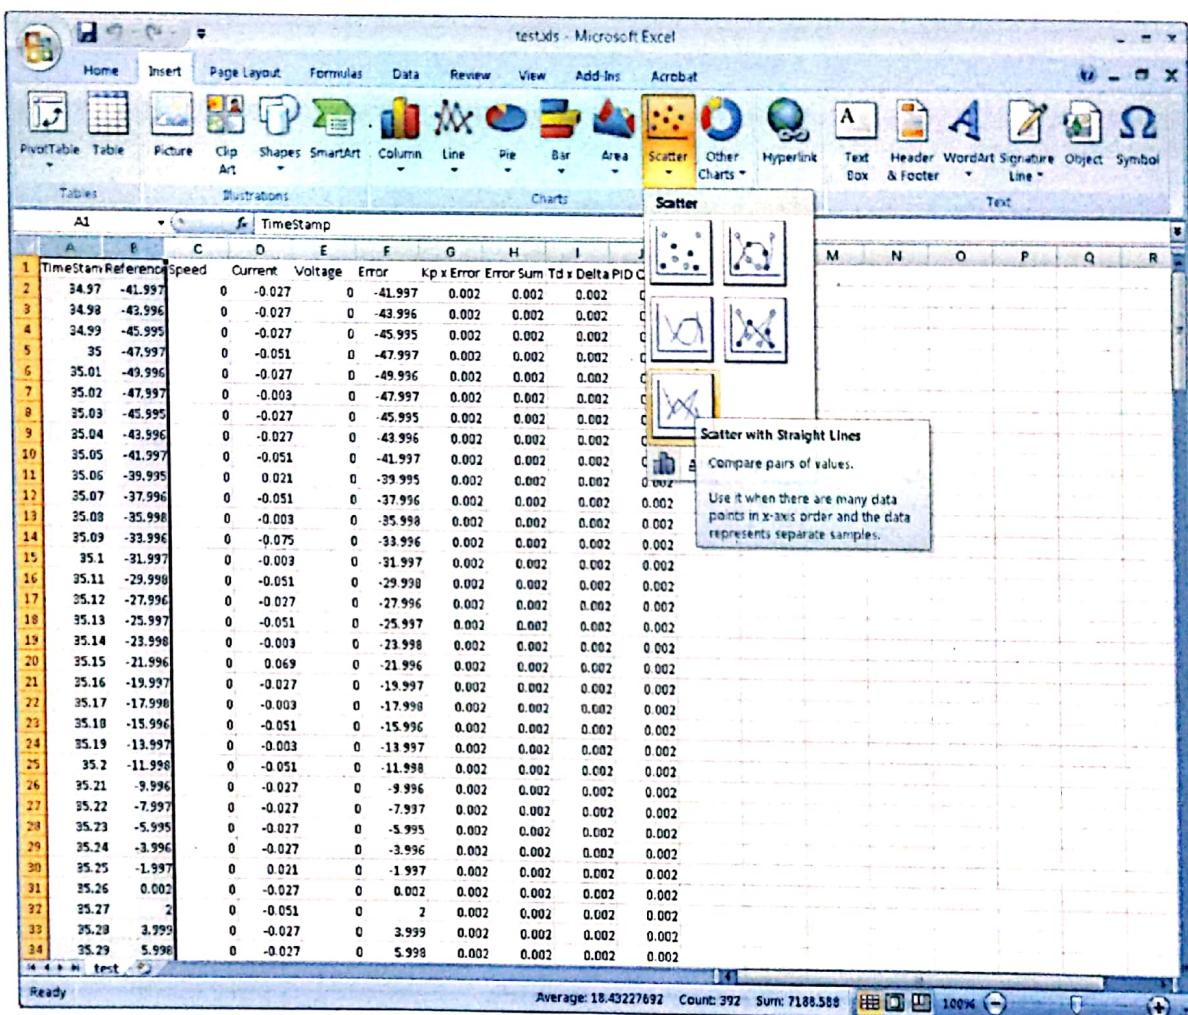

Figure 16. Line-chart selection.
19. Click on the Insert button and then select the line chart as shown in Figure 16.